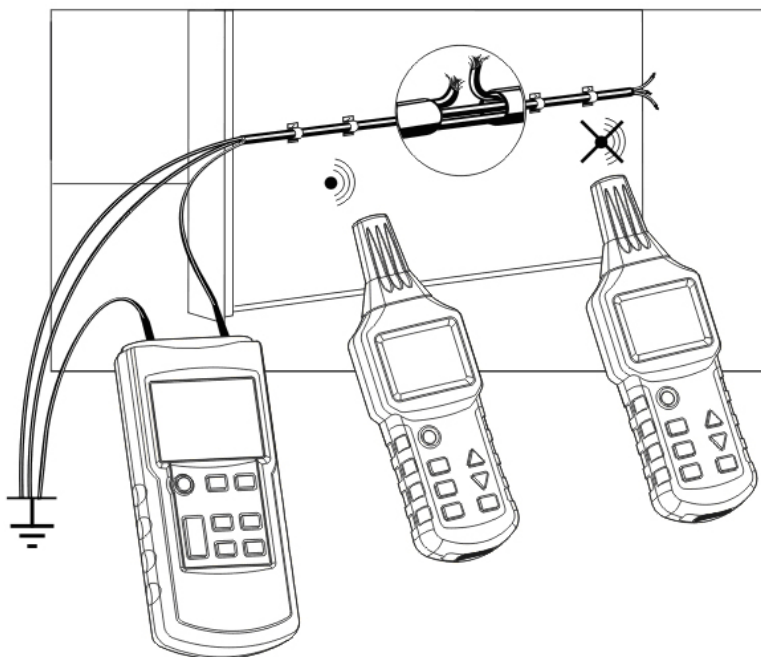

Fig.11
- All the other lines must be earthed as shown in Fig. 11.
- Connect the transmitter to the wire in question and to earth as shown in Fig. 11.